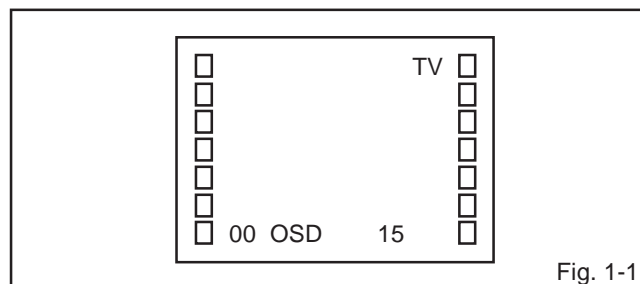

Fig. 1-1
2. Press the VOL. DOWN button on the set and the Channel button (**9**) on the remote control for more than 2 seconds to display adjustment mode on the screen as shown in **Fig. 1-1**.
3. Activate the adjustment mode display of **Fig. 1-1** and press the channel button (**02**) on the remote control to select "RF AGC".
3. Activate the adjustment mode display of **Fig. 1-1** and press the channel button **(03)** on the remote control to select "VIF VCO".
4. Activate the adjustment mode display of **Fig. 1-1** and press the channel button **(01)** on the remote control to select "CUT OFF".
4. Activate the adjustment mode display of **Fig. 1-1** and press the channel button **(10)** on the remote control to select "R.BIAS".
3. Activate the adjustment mode display of **Fig. 1-1** and press the channel button **(13)** on the remote control to select "BRIGHTNESS".
4. Activate the adjustment mode display of **Fig. 1-1** and press the channel button **(16)** on the remote control to select "TINT".
4. Activate the adjustment mode display of **Fig. 1-1** and press the channel button (**15**) on the remote control to select "COLOR".